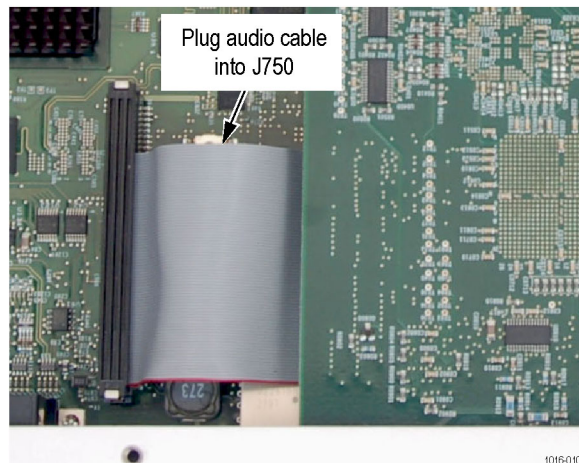

Figure 14: Audio cable
10. Plug the audio cable into connector J750. (See Figure 14.)